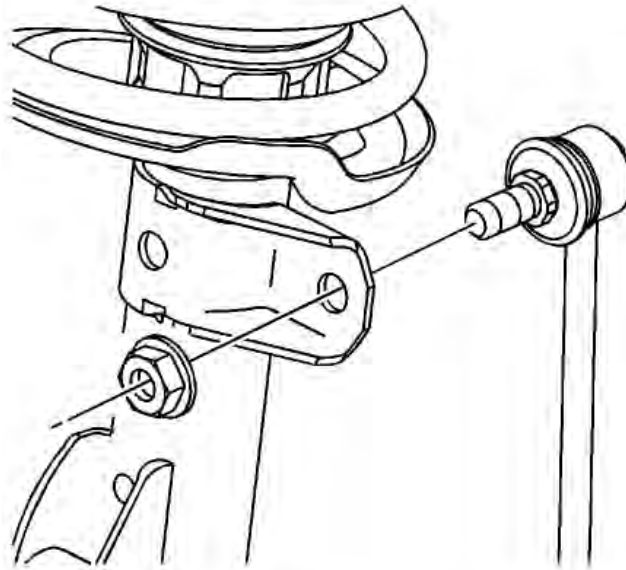

fig. 2
3. Unthread the stabilizer link nut from the strut and detach the link (fig. 2).
- Reattach the stabilizer link through the tab with the previously removed nut. Torque to 65 Nm (48 ft./lbs.) (fig. 2).